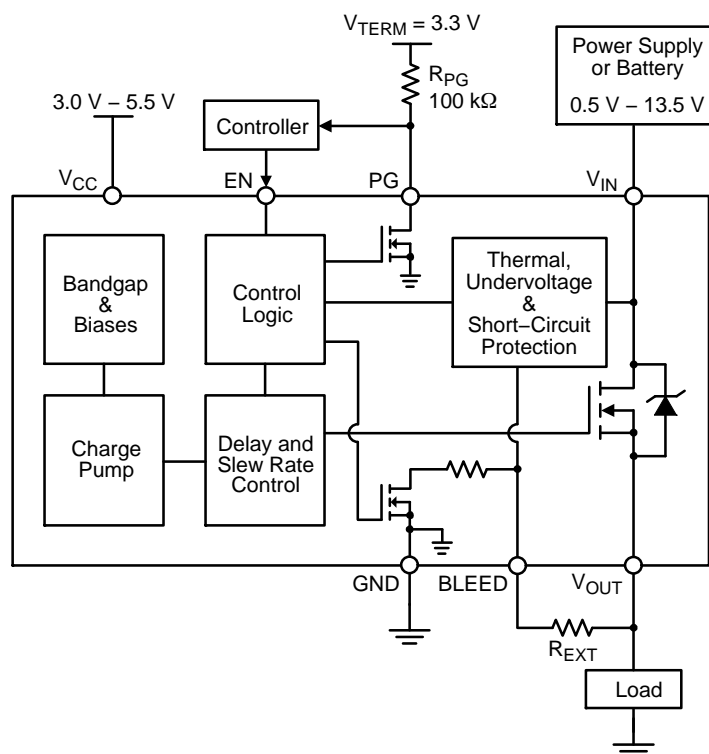
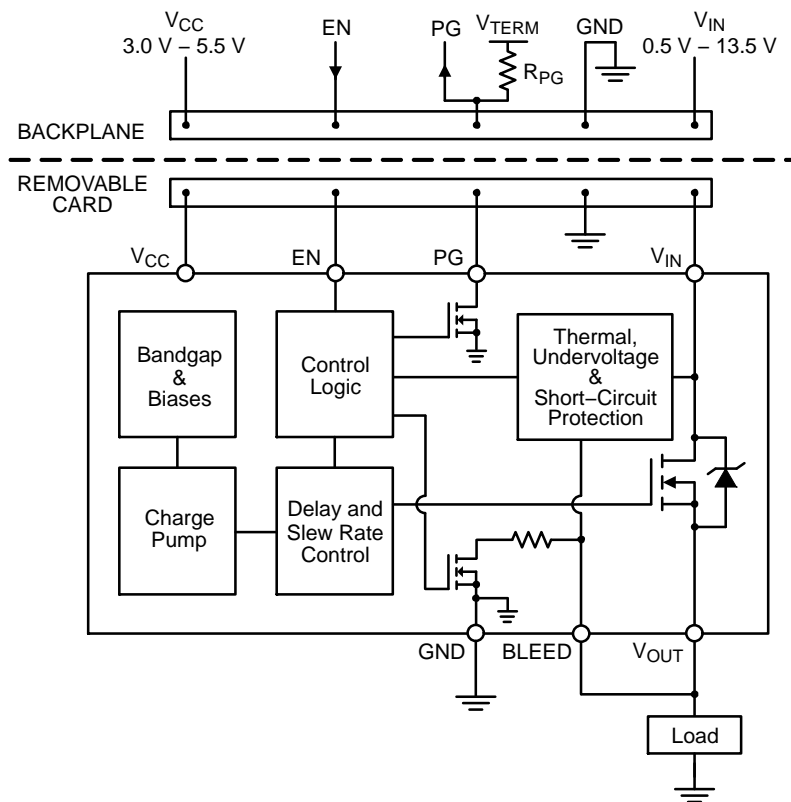

Figure 30. NCP45520 Typical Application Diagram – Load Switch
Figure 31. NCP45520 Typical Application Diagram – Hot Swap
It is required that the BLEED pin be connected to  $V_{OUT}$  either directly (as shown in Figures 31 and 34) or through an external resistor,  $R_{EXT}$  (as shown in Figures 30 and 33).  $R_{EXT}$  should not exceed 1 k $\Omega$  and can be used to increase the total bleed resistance.
The NCP45520 devices have a power good output (PG) that can be used to indicate when the gate of the MOSFET is fully charged. The PG pin is an active-high, open-drain output that requires an external pull up resistor,  $R_{PG}$ , greater than or equal to 1 k $\Omega$  to an external voltage source,  $V_{TERM}$ , that is compatible with input levels of all devices connected to this pin (as shown in Figures 30 and 31).
Once active, the circuitry monitors the difference in the voltage on the  $V_{IN}$  pin and the voltage on the BLEED pin. In order for the  $V_{OUT}$  voltage to be monitored through the BLEED pin, it is required that the BLEED pin be connected to  $V_{OUT}$  either directly (as shown in Figures 31 and 34) or through a resistor,  $R_{EXT}$  (as shown in Figures 30 and 33), which should not exceed 1 k $\Omega$ . With the BLEED pin connected to  $V_{OUT}$ , the short-circuit protection is able to monitor the voltage drop across the MOSFET.